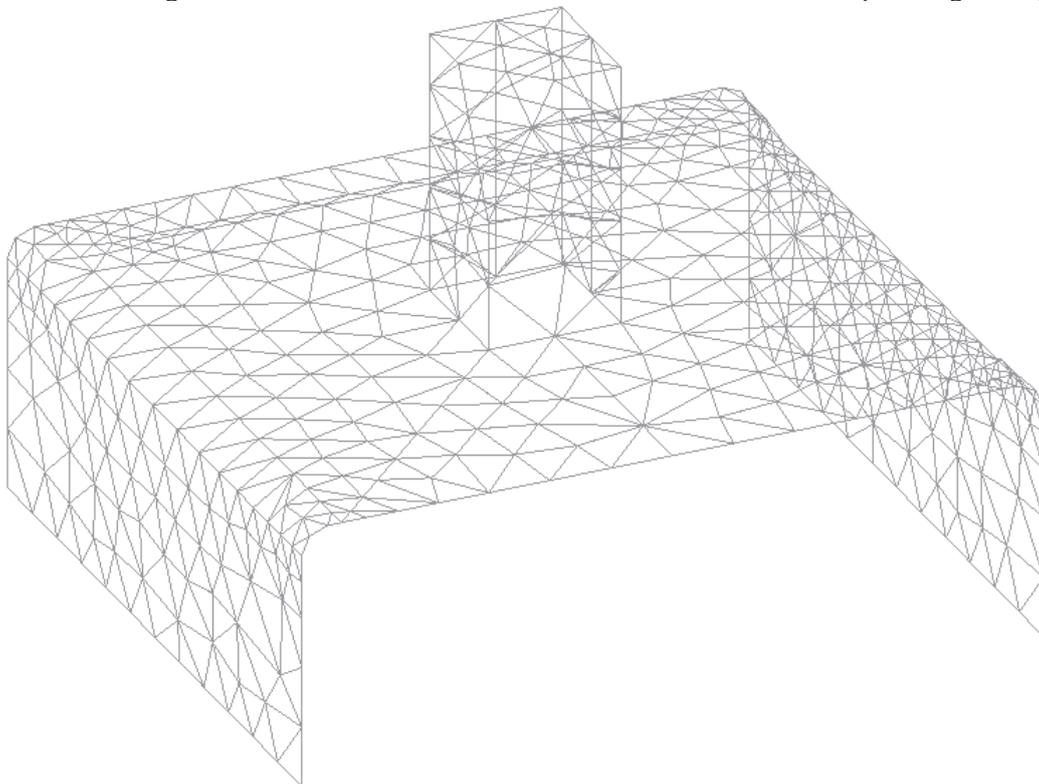

Figure 2. Meshing by default
- 3 . A meshing process window opens. Then another window appears with information about the mesh generated. Click **View Mesh** to visualize the mesh (see Figure 2).